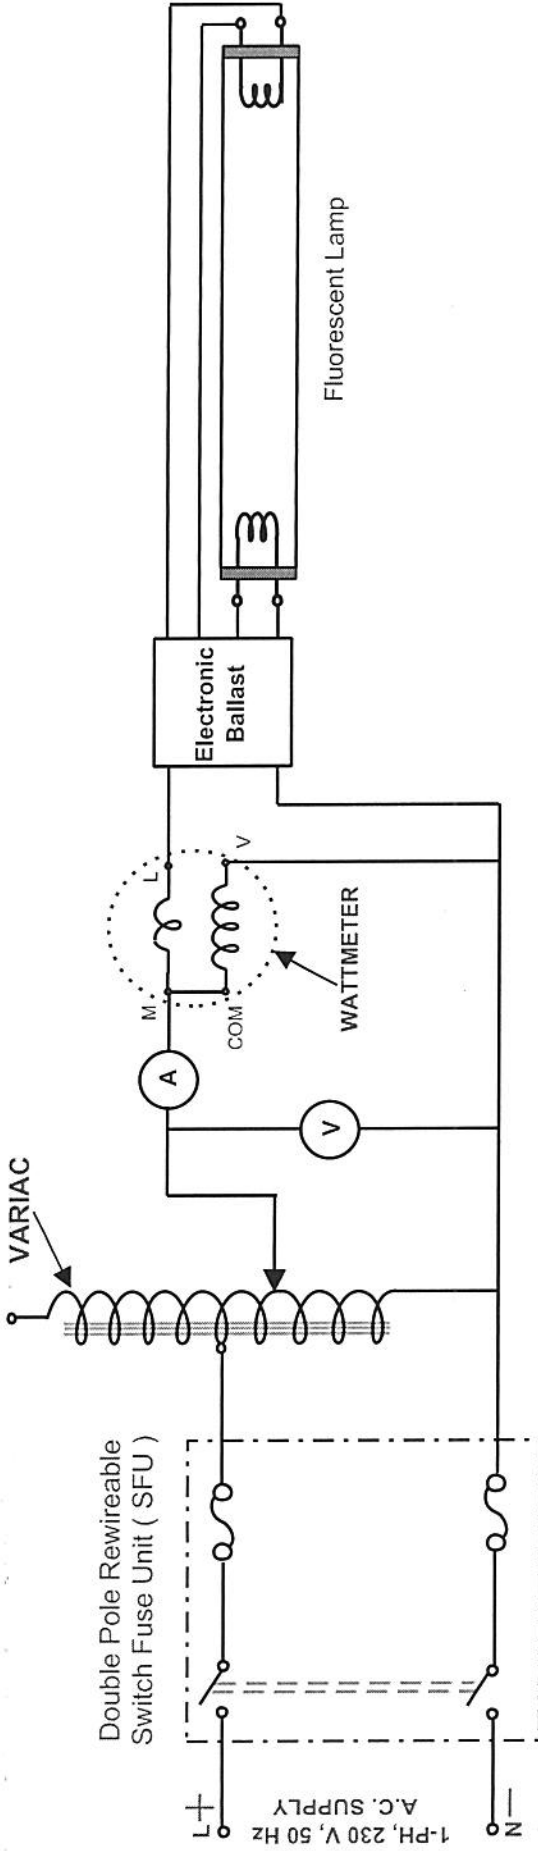

Fig: 6.3 Circuit Diagram For Determination Of Lamp Characteristic With Electronic Ballast (Fluorescent Lamp)
7. Repeat each of the above steps for Aluminum choke, Copper choke and Electronic choke as shown in Fig.6.3.